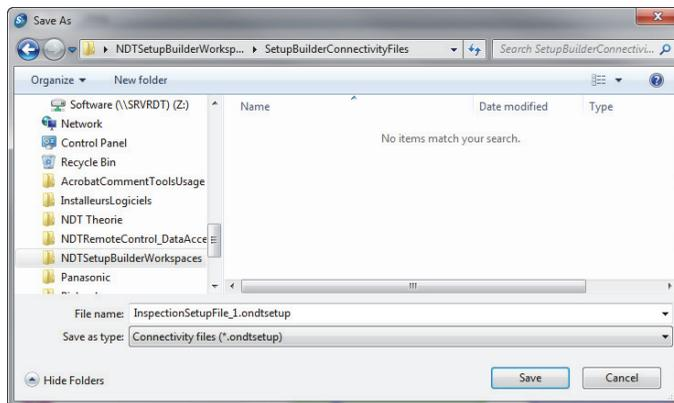

Figure 11-1 The Save As dialog box when saving a workspace as an .ondtsetup file
2. In the **Save As** dialog box, select the folder where you want to save the file (see Figure 11-1 on page 164).